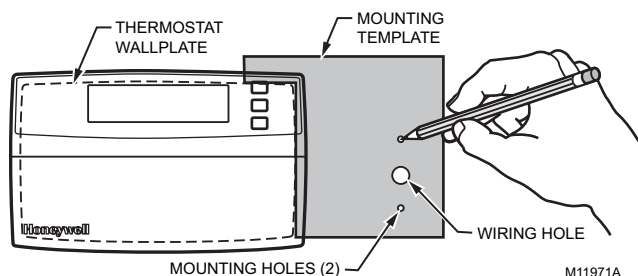

Fig. 10. Positioning mounting template.
1. Hold the mounting template (included in the bag assembly) next to the T8600 as shown in Fig. 10.